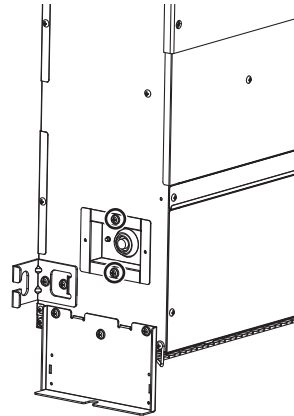

Fig.21
- (2) Remove the two bearing retainer screws to remove the bearing. (Fig.21)